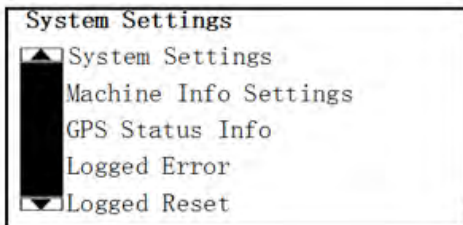

Figure 16
- 2) Press  to enter the **system setting** page (figure 16).
- 1) On the **system settings** page (figure 16).